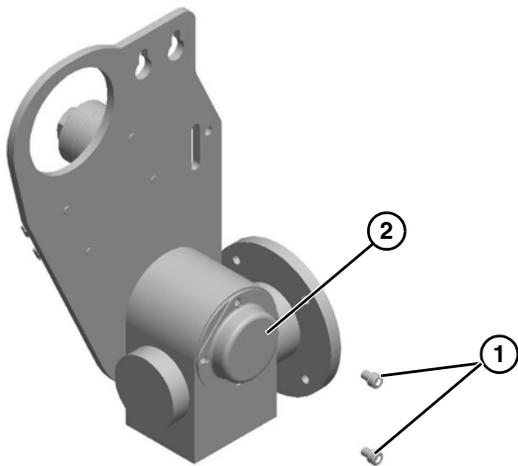

Figure 36
- Attach output shaft cover (**Figure 36, item 2**) with two screws (**Figure 36, item 1**).